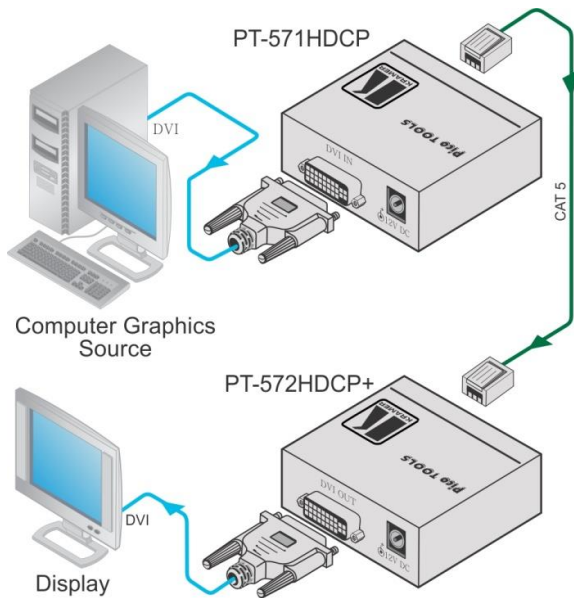

Figure 3: Connecting the PT-571HDCP/PT-572HDCP+ Transmitter/Receiver Pair
To connect the **PT-571HD**CP to the **PT-572HD**CP+, as illustrated in the example in Figure 3, do the following:
4. Connect the 12V DC power adapter to the power socket on the **PT-571HD**CP and/or the **PT-572HD**CP+ and connect the adapter to the mains electricity (not shown in Figure 3).